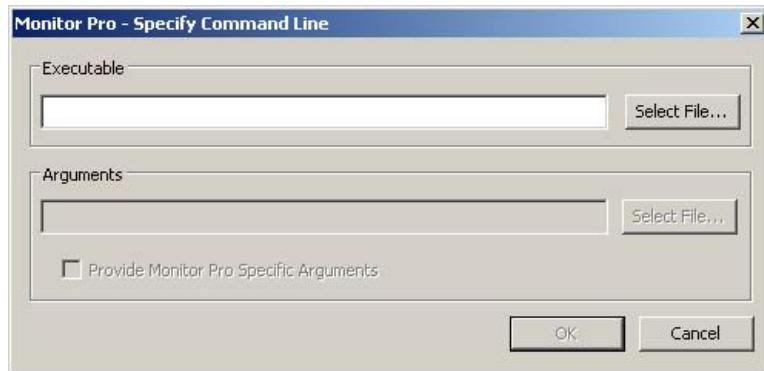

Figure 218: Specifying a command line
3. The **Specify Command Line** dialog is displayed, see Figure 218.